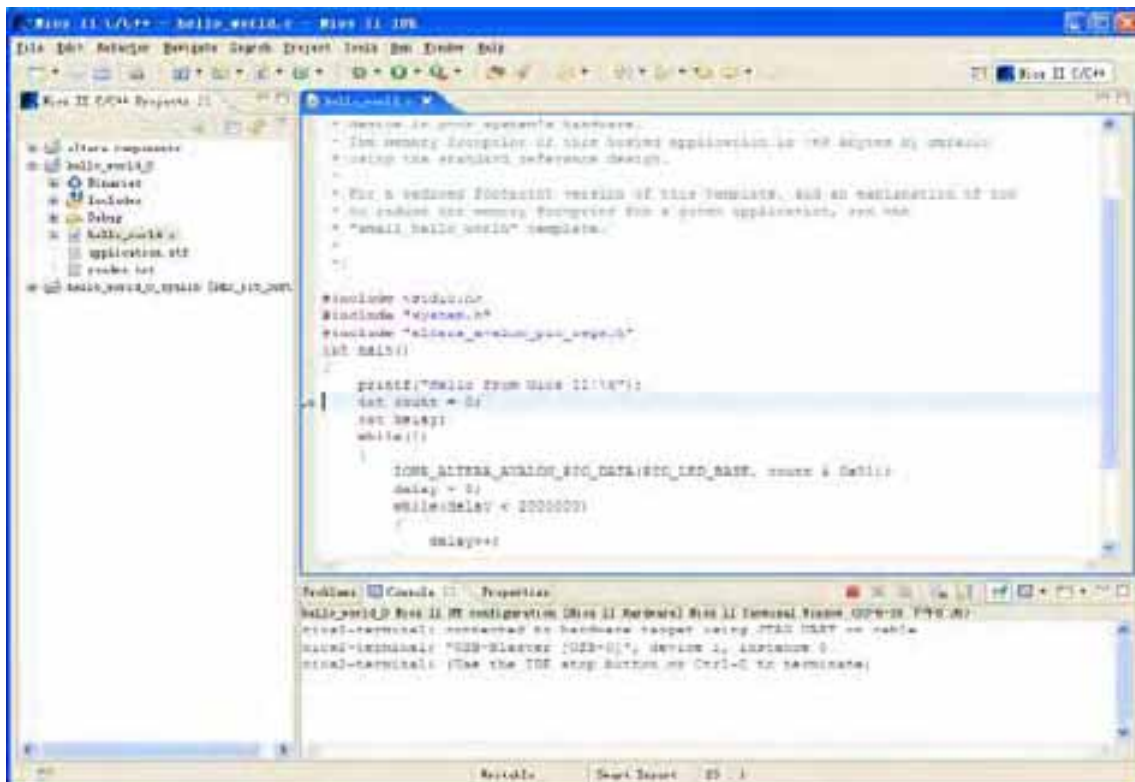

Figure 7-60 Set Breakpoint
1. In the **hello_world.c**, double-click the front of the line where you would like to set breakpoint, as shown in **Figure 7-60**.